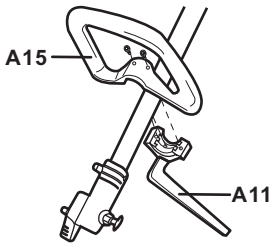

Fig. 1a
3. Place the handle onto the shaft from the top and secure it with hex bolts. Tighten them with the hex key (E3). (See Fig. 1a)